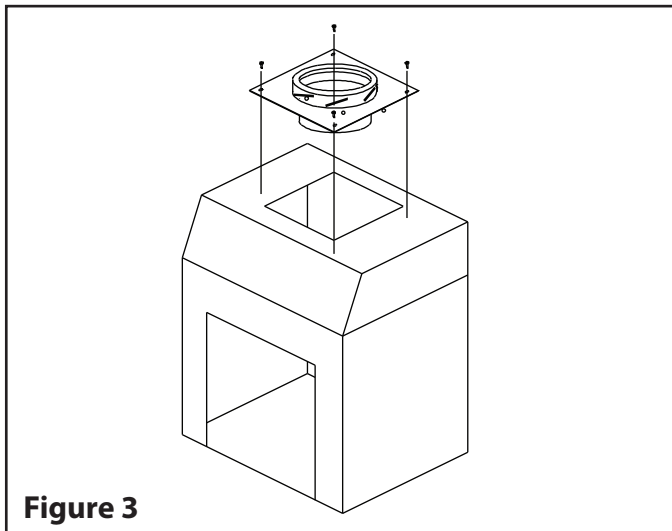

Figure 3
Step 1: Once the fireplace is installed, secure the Anchor Plate (AP) on the top of the fireplace as stated in the instructions. See Figure 3.